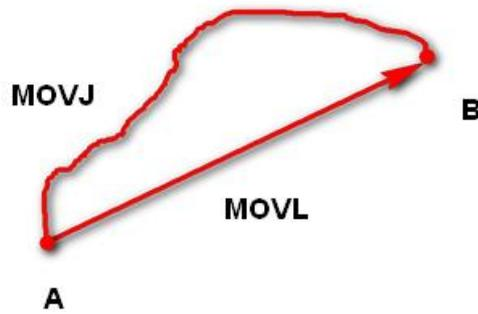

Figure 2.6 MOVL/MOVJ mode
- **MOVJ**: Joint movement. From point A to point B, each joint will run from an initial angle to its target angle, regardless of the trajectory, as shown in Figure 2.6.
- **MOVL:** Rectilinear movement. The joints will perform a straight line trajectory from point A to point B, as shown in Figure 2.6.